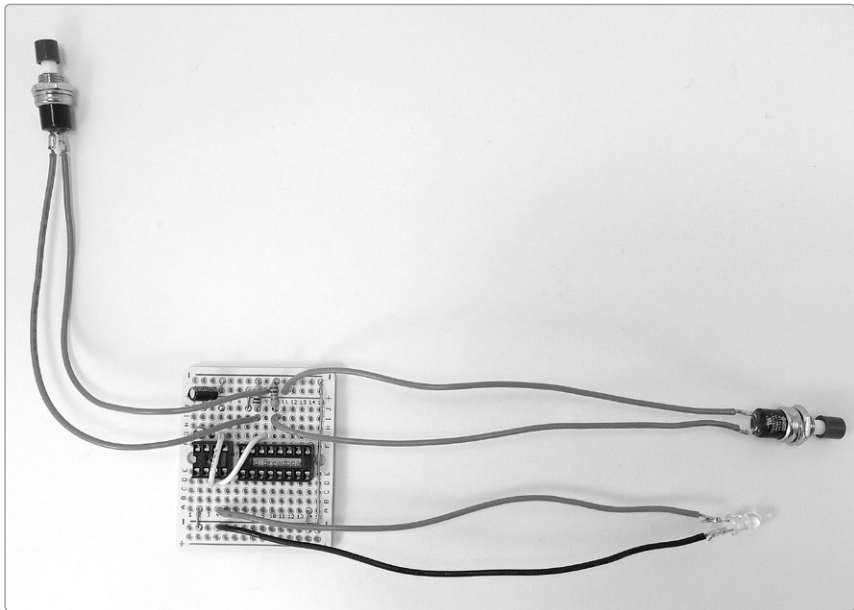

FIGURE 16-15: *Installing the pause and reset buttons*
Step 16 Take one pushbutton switch—it doesn't matter which—and connect either of its leads to pad 10I on the PCB. Run the switch's other lead to the power rail at column 11, as shown in Figure 16-15 and in detail in Figure 16-16 (right). Solder both wires. Take the other switch and connect one lead to pad 8I and the other lead to the power rail at column 9. Solder both of these.